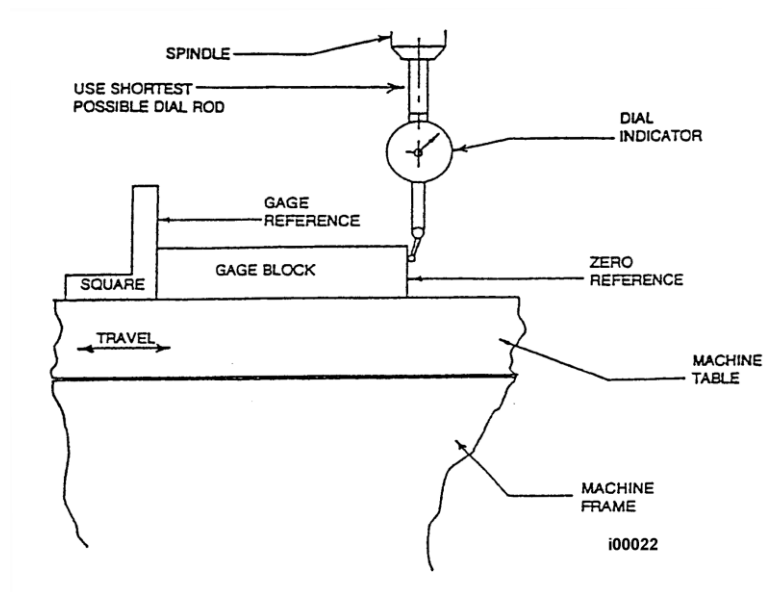

Figure 5-44 - Calibration Set-Up
Calibration is used to teach the machine a known distance. We typically calibrate our machines over a 150 mm distance. There is no limit to how far you can calibrate the machine. Refer to Figure 5-44.
1. Create a set up similar to that shown in Figure 5-44, except orient the gage block and reference to measure vertical ram motion.